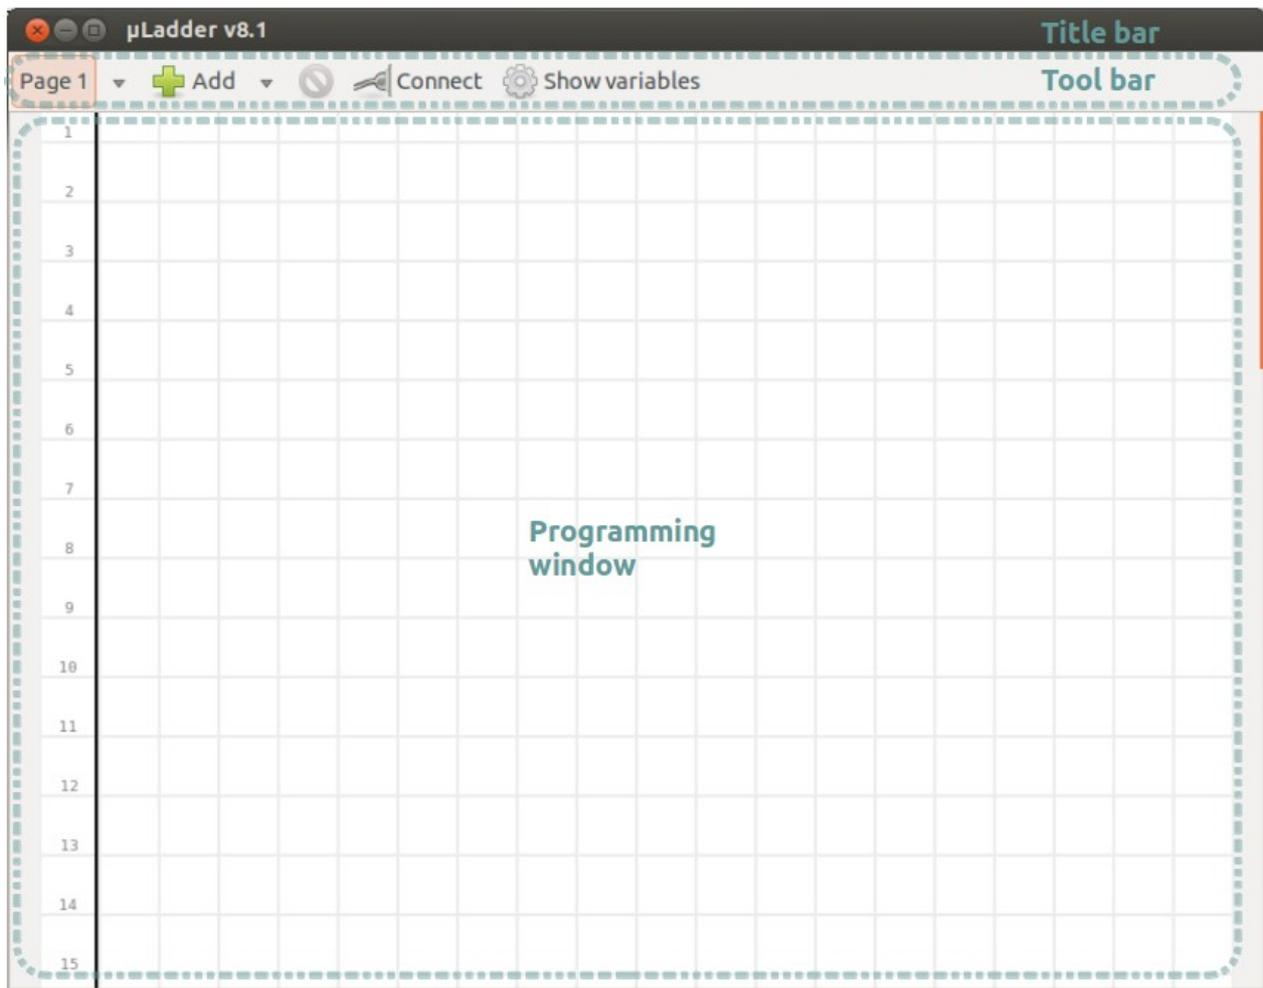

Figure 1. µLadder main window.
When opening the μLadder, the main window of the software pops up (See Figure 1). The following elements can be found on the main window:
- **Title bar:** on the title bar you can find the version of the μLadder installed. In the example of Figure 1, you can see “ μLadder v8.1”. That means that version 8.1 of μLadder software has been installed.